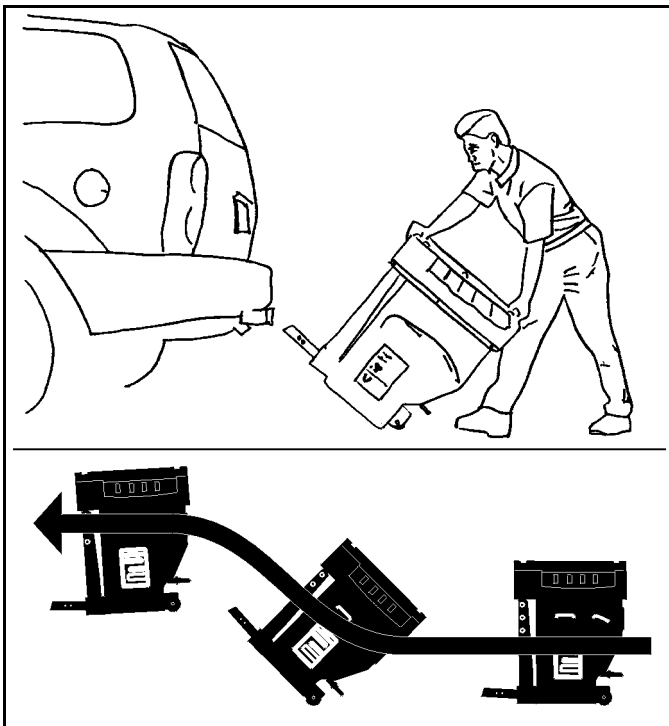

Figure 2-2
3. Tilt the spreader/ hitch adapter upward and lift spreader to align the adapter with the hitch receiver on the vehicle. Slide the spreader forward until the hitch holes on the side of the hitch receiver and spreader hitch adapter line up. (See Figure 2-2)